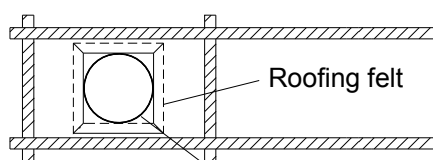

Fig. 2 TUB/TUS seal plate
2. The TUB is placed (collar upwards) under the roofing felt at the upper edge and along the sides, and on top of the roofing felt at the lower edge, fig 2 and 5.